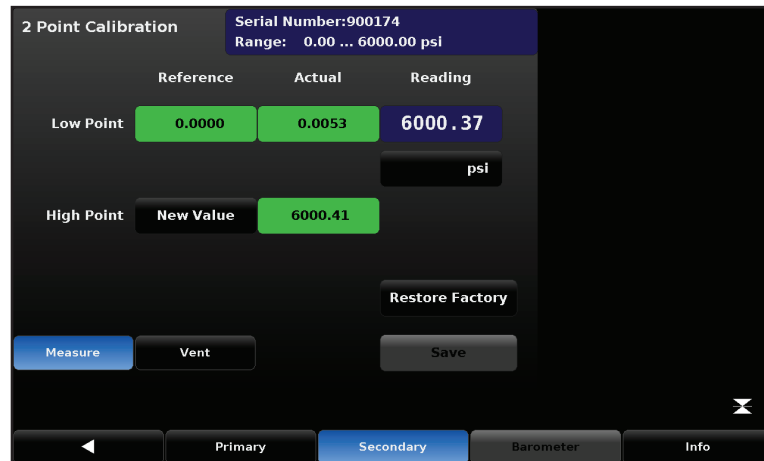

Figure 6.4.2.5.2-6 – High Point 'Actual'
6. Press the [New Value] button and enter the "true pressure". This value is obtained from the pressure measured by the calibration standard. After the value has been accepted by pressing the check mark  on the numeric key pad, the value will appear with a green background where the [New Value] button was. This completes the 'High Point' calibration. See Figure 6.4.2.5.2-6